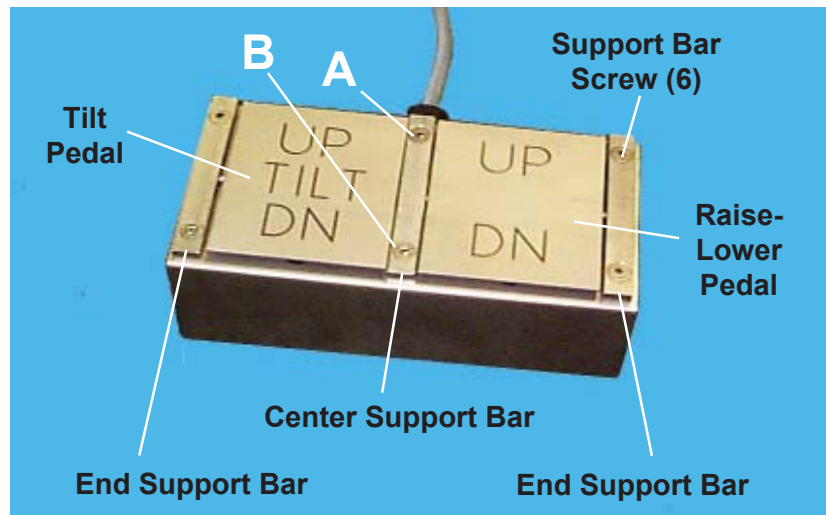
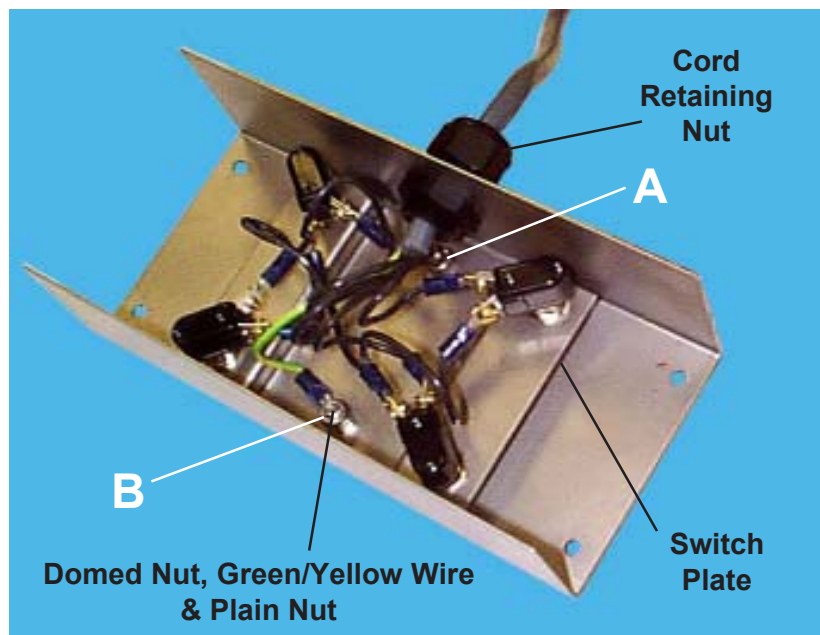

Figure 17. Center and End Support Bars
Figure 20. Inside the Cover
1. With a 1/8-in. hex key, remove the four screws from the two end support bars on the foot controller (Figure 17).
5. With a 7/8-in. open-end wrench, loosen the cord retaining nut (Figure 20) and slide the nut several inches up the cord (just to get it out of the way!).
6. While holding the inside nut **A** (Figure 20) with a 3/8-in. wrench, use the 1/8-in. hex key to remove the corresponding screw on the center support bar (Figure 17).
7. While holding the inside nut **B**, (Figure 20) with a 3/8-in. socket wrench on a 3-in. extension, use the hex key to remove the corresponding screw on the center support bar (Figure 17).
Note: The center support bar is held in place by a domed nut at **A** (Figure 20), and a plain nut and a domed nut at **B**. The green/yellow wire goes between the two nuts at **B**. The domed nuts go on with the flat side down, and the dome on top.